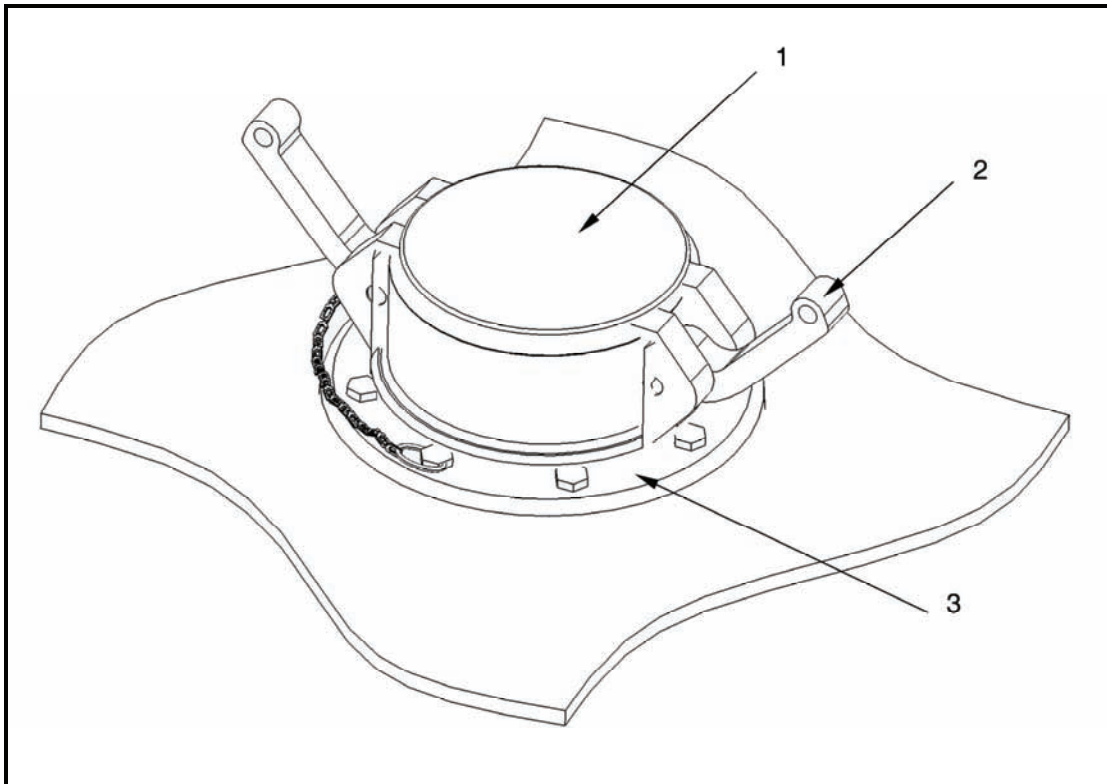

Figure 23. Tank Vent Dust Cap.
1. Remove dust cap (Figure 23, Item 1) by pulling cam lock levers (Figure 23, Item 2) outward, and lifting up on dust cap.